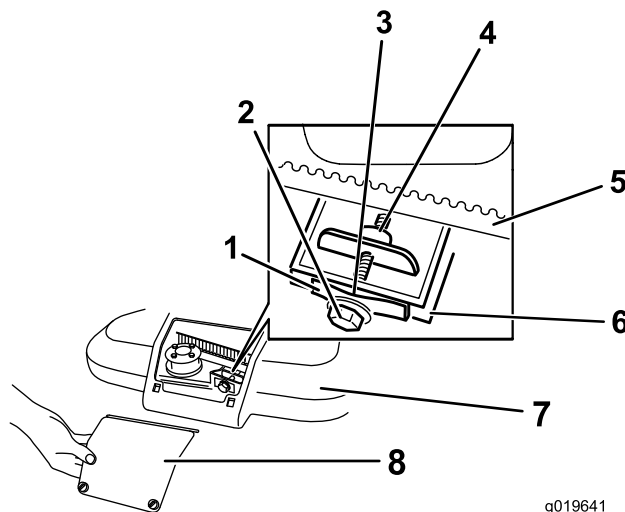

Figure 39
1. Loosen the 2 screws on the belt-cover panel and remove the panel (Figure 39).
3. Hold a 0.255 mm (0.010 inch) feeler gauge, a piece of paper, or a note card against the wall and slide it down behind the belt tension spring (Figure 39).
Note: If there is a visible gap between the gauge and the spring, tighten the adjusting bolt and the nut until the paper barely slides freely in and out of the gap (Figure 39).